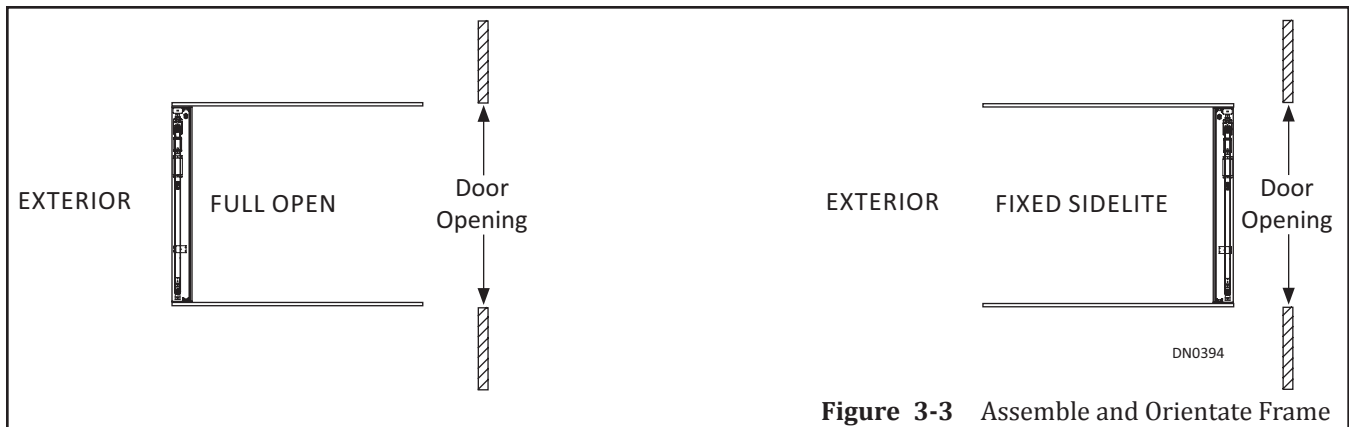

Figure 3-3 Assemble and Orientate Frame
2. Position Jamb tubes on either side of Header according to the instruction sticker located on each Jamb tube, that shows proper location and orientation. Please see Figure 3-3.